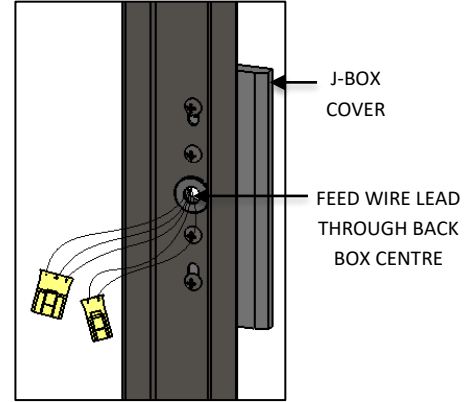

FIG. 11- WIRE LEADS INFORMATION
7. Feed WIRE LEADS through center hole in BACK BOX as shown in FIG.11 and make all wire connections in accordance with the national electrical code and applicable local and state codes. See FIG.12 and 13 for wire connections